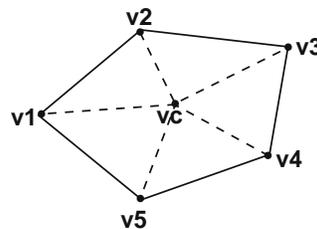

Figure 1.5 Polygon surface
3. At least three vertices are required to define a **polygon** surface. The polygon is automatically subdivided into triangular surfaces by first creating an additional vertex at the centroid of the polygon, and then creating triangular surfaces defined by the centroid and each edge of the polygon. In this way, the vertices do not have to be coplanar. For best results, the polygon should be defined by vertices that create a closed convex surface (see Figure 1.5).